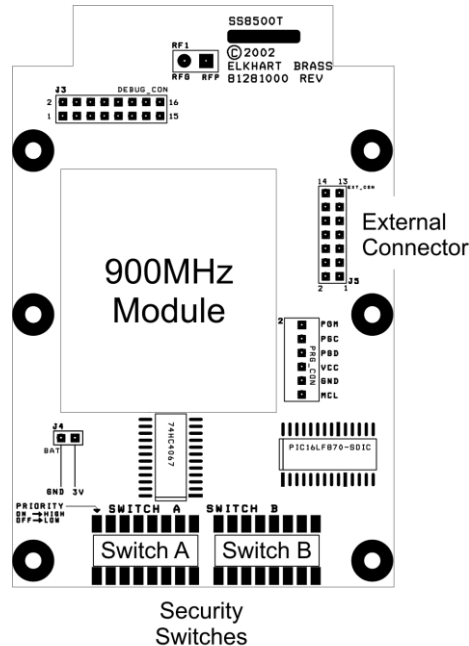

Figure 19
- b) Locate the security code switches on the transmitter circuit board (see Figure 19).
- d) Locate the security code switches on the transmitter circuit board (see Figure 19).